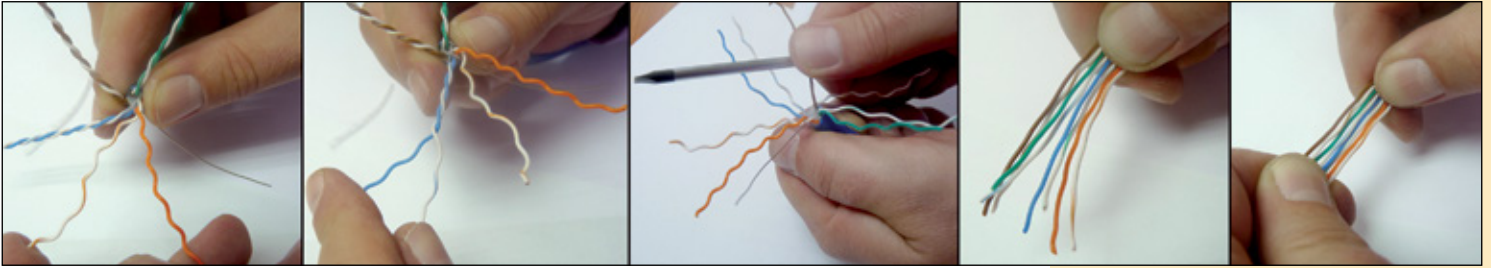

Figure 8
- 7 Please separate each pair wires and straighten them with the help of the screwdriver. As shown in **Figure 8**.